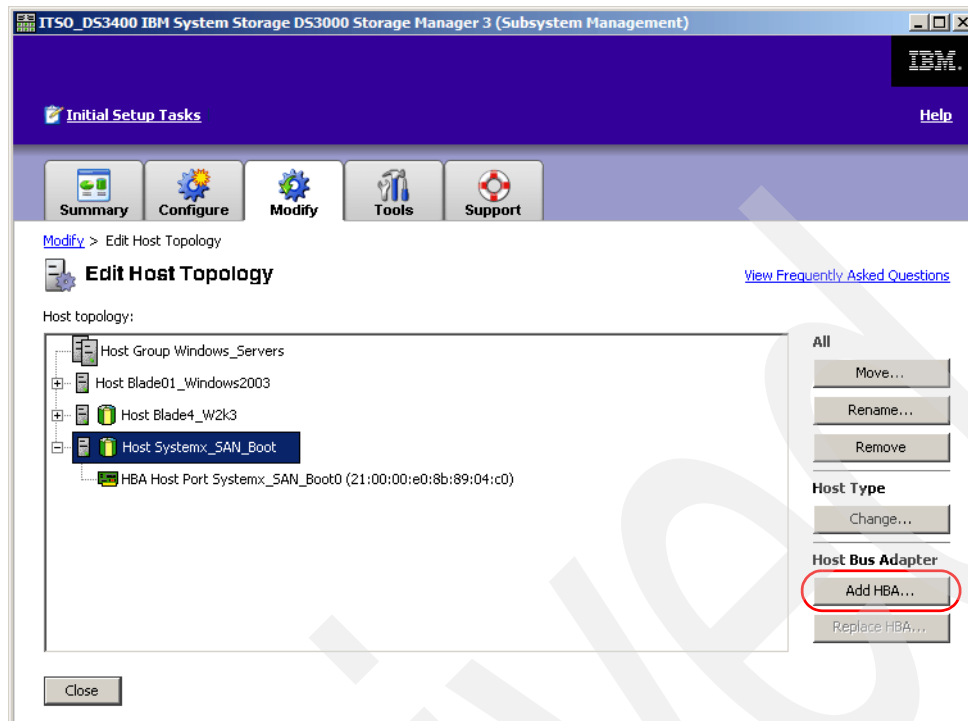

Figure 27-32 Edit Host Topology - Add HBA
1. In the Storage Manager Modify tab, click **Edit Topology**. Click **Add HBA** to specify the new host port, as shown in Figure 27-32 on page 699.